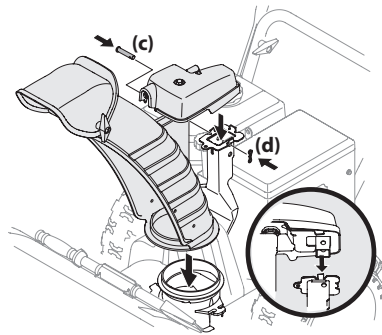

Figure 2-22
2. Place chute assembly onto chute base and secure chute control head to chute support bracket with clevis pin (c) and cotter pin (d) removed in Step 1. See Figure 2-22.